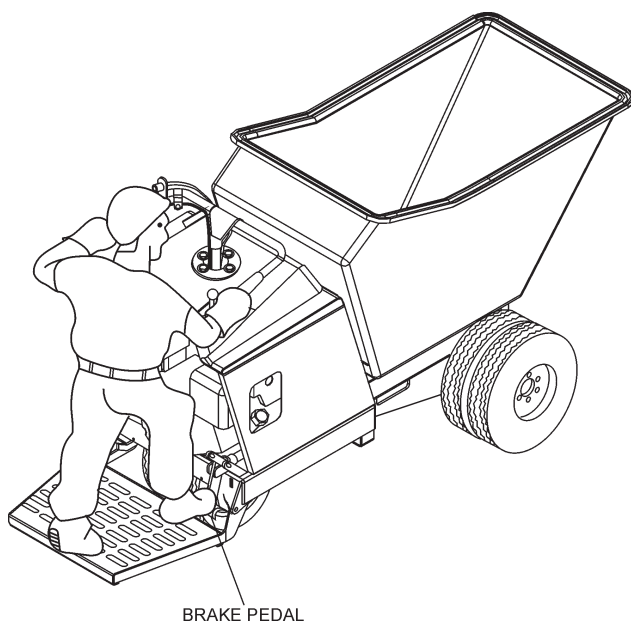

Figure 21. Brake Foot Pedal
3. With the right foot, step up and place it on the **brake pedal** (Figure 21). Gradually apply pressure to the brake pedal until the buggy comes to rest.